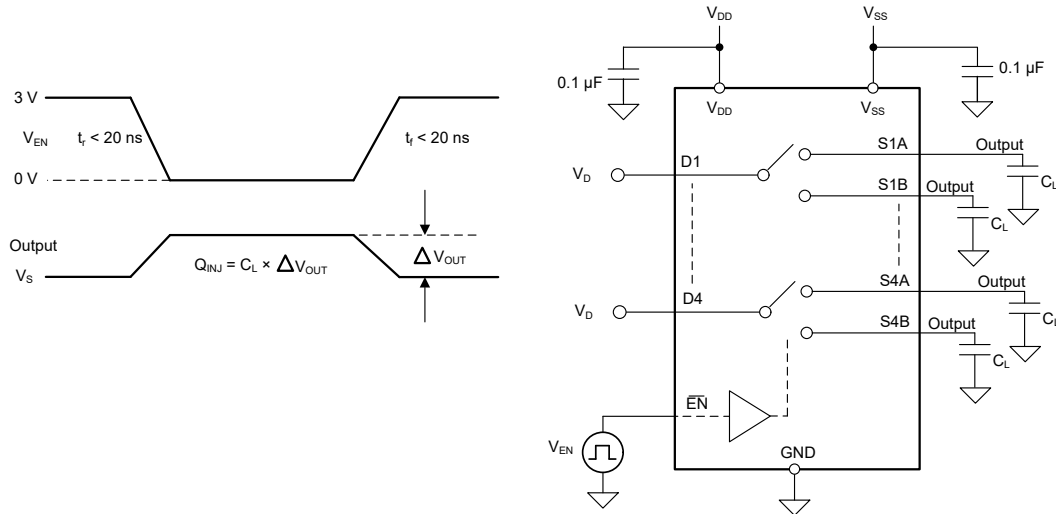

Figure 7-9. Charge-Injection Measurement Setup
The TMUX6234 has a transmission-gate topology. Any mismatch in capacitance between the NMOS and PMOS transistors results in a charge injected into the drain or source during the falling or rising edge of the gate signal. The amount of charge injected into the source or drain of the device is known as charge injection, and is denoted by the symbol Q_{INJ} . Figure 7-9 shows the setup used to measure charge injection from source (Sx) to drain (D).